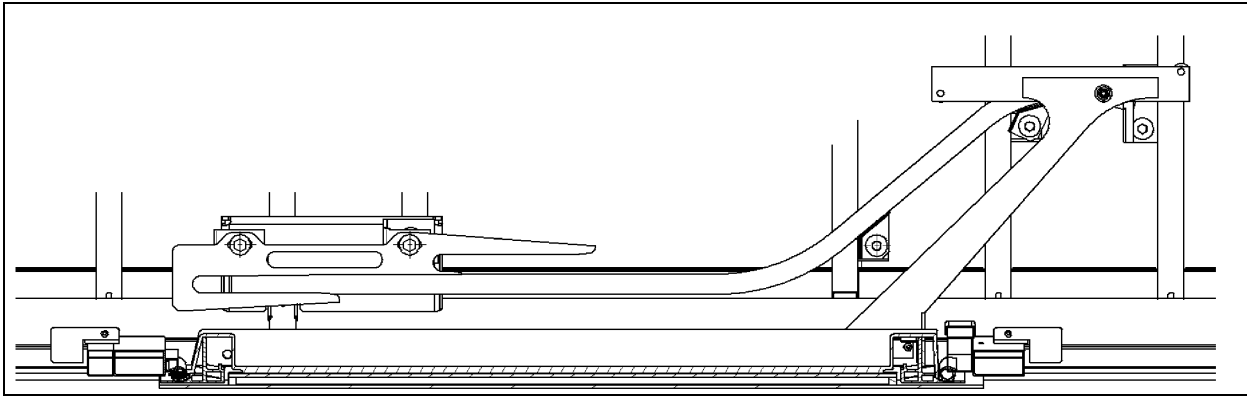

FIGURE 74: WCL UPPER ARM AND RAIL
2. Slide the top rail into the upper arm then bolt the rail to the structure. Do not fully tighten (Refer to Figure 74).